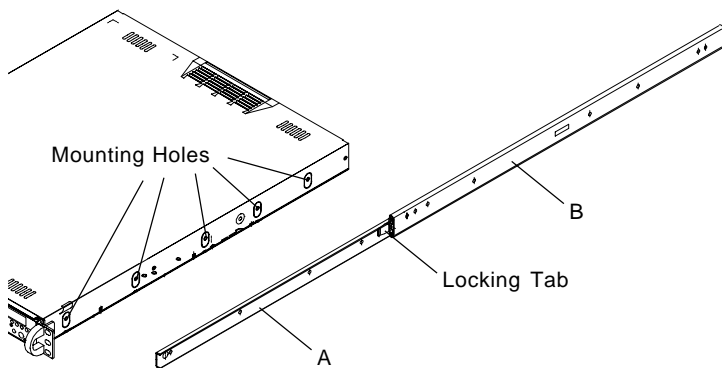

Figure 2-1. Identifying the Sections of the Rack Rails
You should have received two rack rail assemblies with the SuperServer 6010H. Each of these assemblies consist of two sections: an inner fixed chassis rail that secures to the 6010H (A) and an outer fixed rack rail that secures directly to the rack itself (B). A sliding rail guide sandwiched between the two should remain attached to the fixed rack rail. (See Figure 2-1.) The A and B rails must be detached from each other to install.